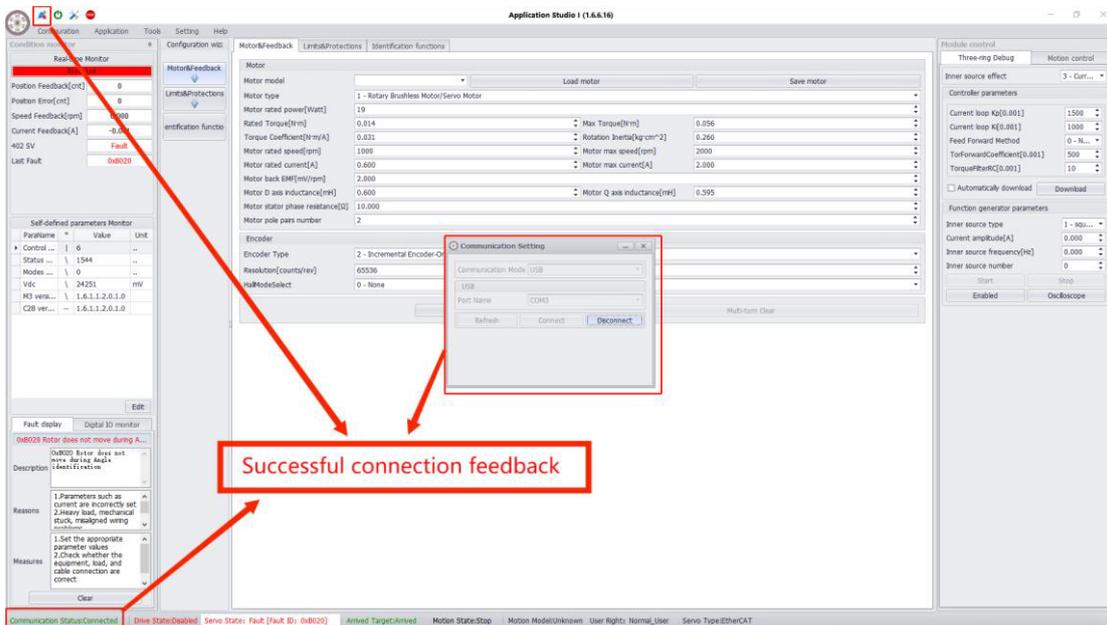

Figure 3-3 Communication connection succeeded
5. Click **"Connect"**. The result shows as in Figure 3-3.